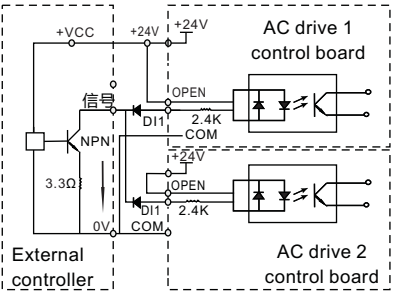

Figure 3-22 DI terminals connected in parallel in SINK mode
- ✦ In this In such wiring mode, the DI terminals of different AC drives cannot be connected in parallel. Otherwise, DI mal-function may result. If parallel connection (different AC drives) is required, connect a diode in series at the DI and the diode needs to satisfy the requirement: $IF > 10mA$, $UF < 1V$. As shown in Figure 3-22.